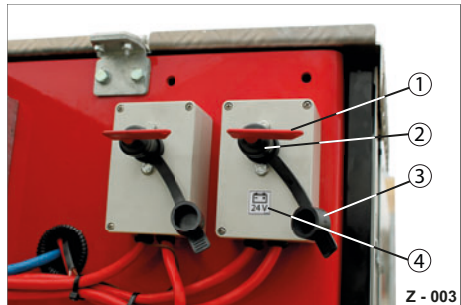

Abb. 7 Battery power supply right-hand main switch
The main switch for the batteries is labelled with a sticker (Abb. 7/4).
- ▶ Insert the plug-in switch (Abb. 7/1) into the socket (Abb. 7/2).
- ▶ Turn the plug-in switch (Abb. 7/1) to ON position.